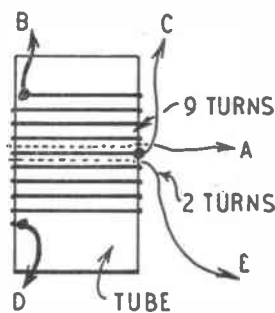
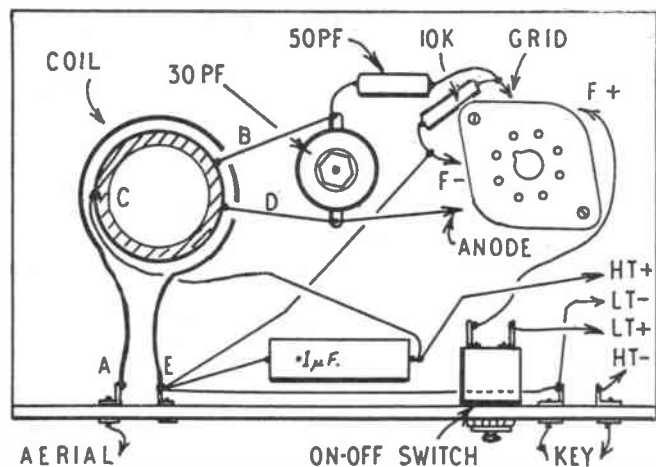
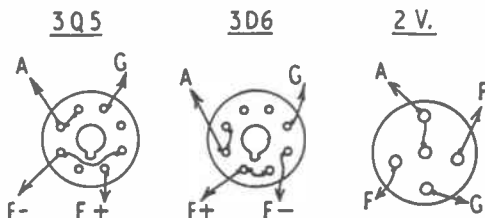

Fig. 2—Coil details
Fig. 3—Wiring plan
Fig. 4—Pin connections
The coil is wound with 20 S.W.G. copper wire, nine turns being used, as in Fig. 2. Turns are so spaced that this winding occupies 1½ins. on the former. The ends, (B) and (D) in Fig. 2, are made fast by passing them through pairs of
The coupling winding is now put on, consisting of two turns of insulated flex. These two turns are wound in the spaces adjoining the centre turn of the 9-turn winding, as shown by the dotted lines in Fig. 2. A touch of adhesive can be used to prevent the two turns coming loose.
Dimensions are unimportant, but a small baseboard about 4ins. by 6ins. will easily hold the parts. An insulated strip or panel is required at the front, to hold aerial and key tags or terminals, and switch, as shown in Fig. 3.
Referring to Figs. 2 and 3, (B) and (D) denote the beginning and end of the 9-turn winding, and go to the tags on the trimmer. (C) is the centre-tap, and is taken to the $\cdot 1\mu\text{F}$ condenser, and H.T. positive. The coupling winding goes to aerial and earth (L.T. negative) and is shown in the form of a single loop away from the coil, in Fig. 3, in the interests of clarity. The coil can be held in place by pushing it upon a cork or disc of wood screwed to the baseboard.
There are only four leads to the valveholder — grid, anode, filament negative, and filament positive, as in Fig. 3. However, actual pin connections depend on the valve to be fitted. Fig. 4 gives pin connections for the 3Q5 and 3D6, viewing the valves from below. The remaining base is for any 2-volt pentode, tetrode, or triode, of the old 4-pin or 5-pin English type. (Triodes will not have the centre pin, but if this socket is wired, a pentode or tetrode can be inserted, instead of the triode, with-
The valveholder is chosen to suit the valve, being octal or 5-pin. The leads can most easily be soldered on before the holder is finally secured in place. Some of the holder sockets require connecting to others, as in Fig. 4. When wiring is finished, the holder is held down by long screws and $\frac{1}{16}$ in. distance pieces, so that the sockets are just clear of the baseboard. It must be remembered that pin connections, for the octal-types, will not be correct if the valveholder is viewed from above.
The tags, terminals, or leads marked 'key' in Fig. 3 should be shorted. No